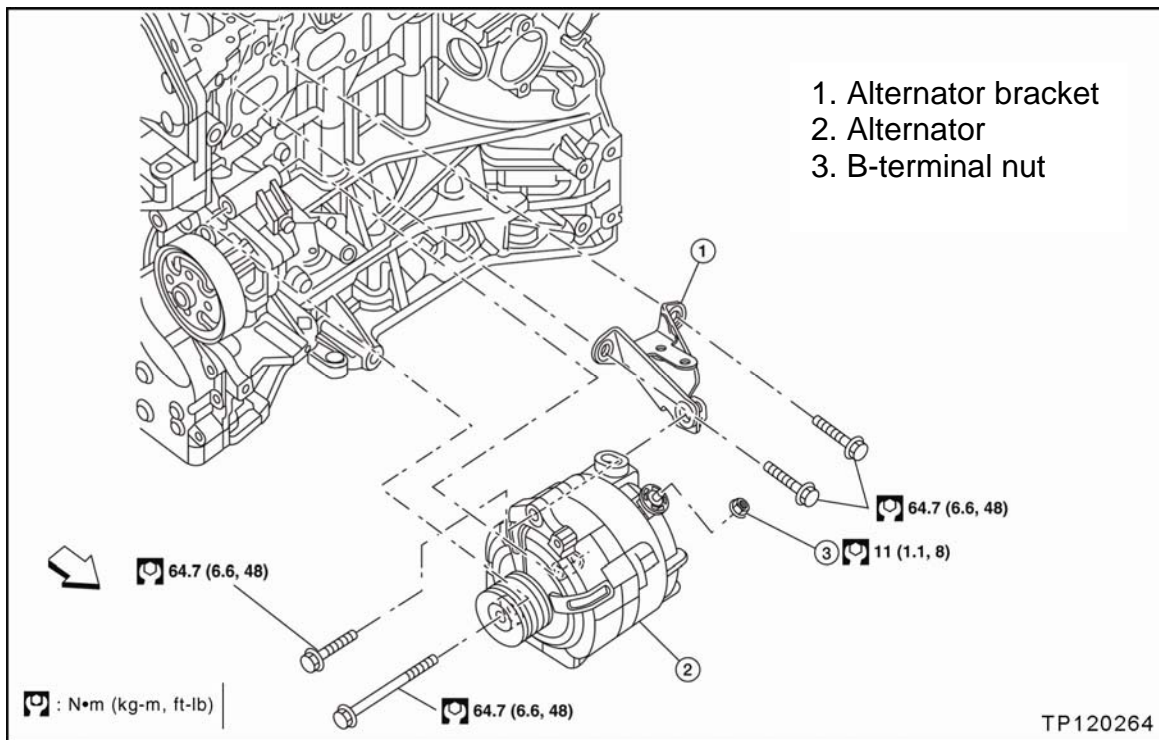

Figure M7
11. Remove the alternator as follows (refer to Figure M7):